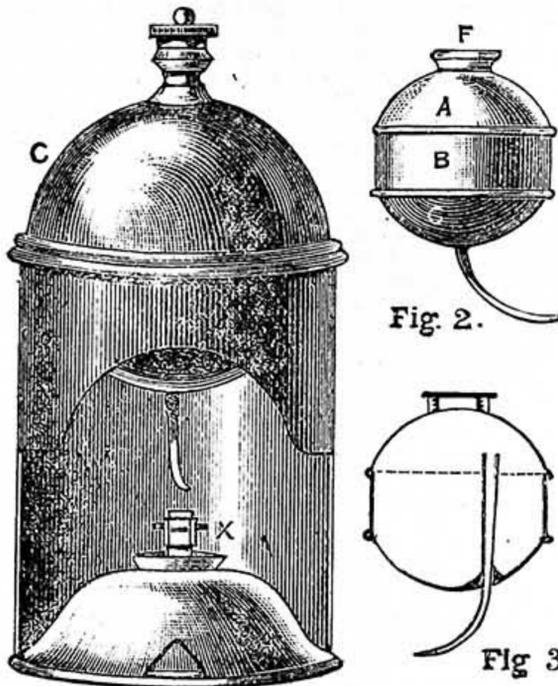

Fig. 1.—Blow-Lamp. Fig. 2.—Home-Made Reservoir, equivalent to C, Fig. 1. Fig. 3.—Section of Reservoir, showing Position of Blow-Pipe.
**Blow-Lamp.**—WATER-PIPE and E. D. (*No Address*).—A very good lamp for the uses you wish to employ it for is the French methylated spirit blow-lamp, Fig. 1. If you really wish to try and make one, you cannot do better than get an old police lantern; this will give you a start with the body if you take the glass out, and cut front to the shape shown in the sketch; the lamp also could be brought in with a little alteration. The top chamber, C, is the part that you would have most trouble with; it is, as shown in sketch, spherical in form, with a screw on the top for filling; there is usually a valve in this screw, but I will tell you how to dispense with that. The simplest way to get over the difficulty is to make a vessel as near the shape as you can, and this you can easily do (see Fig. 2, which illustrates the following description):—Take a strip
of copper or brass, whichever you please,  $\frac{3}{4}$  in. in width, and long enough to go round the inside of the lamp body; let it fit fairly tight, and give a  $\frac{1}{4}$  in. lap and solder it; this will form the centre piece B. Next cut a circular piece,  $\frac{3}{4}$  in. larger in diameter than the piece just made, hollow this up, slip it inside the piece B, then cut another circular piece for the top A; as this ought to be hollowed up more, cut a little larger than the piece C, and this piece must be "capped" on to the piece B, as it will then form a ledge, and prevent its slipping down the lamp body. Before soldering, a hole must be punched in the A piece for the filling screw F, which should be a good one, and have either a leather washer or a ground in stopper, such as is used in the best class hot-water bottles. A small hole must also be made in the C piece for the blow-pipe to pass through. Fig. 3, which is a sketch of the reservoir, shows how the pipe is situated; it must be some distance out of the centre, and should come up inside to within  $\frac{1}{2}$  in. of the top, so as to allow the reservoir to be somewhat over half full to start with. Solder this pipe round well inside, fix the filling screw, and then solder the top and bottom. The blow-pipe may be the end of one of the ordinary gas-fitter's brass blow-pipes, costing about 6d. The lamp itself should have a single tube  $\frac{1}{8}$  in. or  $\frac{1}{4}$  in. in diameter; the wick should be the same as used in ordinary bull's-eye lanterns, viz., that sold in large balls; it is a soft, loose, twisted wick, and should not be packed in too tightly. The flame may be regulated to some extent by the same means that was adopted in the benzoline lamps when they first came up—that is, by an outside tube made to slip firmly, yet easily, over the wick tube (see X, Fig. 1). To use the lamp, fill the vessel C, Fig. 1, about three parts full, or, in other words, not quite up to the level of the inner tube (see dotted line, Fig. 3), with methylated spirit, and the lamp with the same; light the lamp, and as the spirit in the top vessel gets hot, it throws off a gas, or vapour of spirit, which, blowing on the flame of the lamp, forces a strong jet of flame of intense heat outward. Should the lamp not commence to blow in a minute or two after lighting, blow it out, and run a small wire up the blow-pipe to clear it; by being careful about this a valve on the top may be dispensed with. I think that for most purposes that a blow-lamp is required this home-made affair will answer well, but, of course, you cannot expect to do brazing with it. I have not made any experiments to try if this lamp will work with benzoline in place of methylated spirit, but I should think that very likely it would.—R. A.